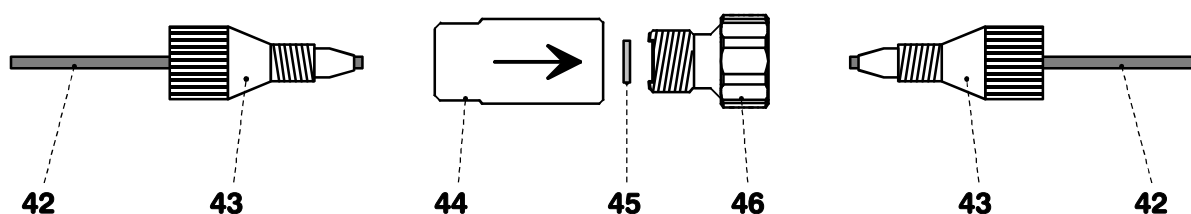

Fig. 18: Filter unit PEEK (6.2821.120)
The **6.2821.120 Filter unit PEEK 47** supplied (see Fig. 18) serves to avoid contamination of the piston seals by abrasive particles and can be used in the pressure range 0...30 MPa (0...300 bar). The filter unit consists of the housing **44**, the filter **45** and the connector **46** to be screwed into the housing **44**. For the connection of capillaries **42**, PEEK compression fittings **43** (6.2744.010) must be used.
- Attach the other end of connection capillary **3** at the filter housing **44** of the filter unit **47** (see Fig. 18).